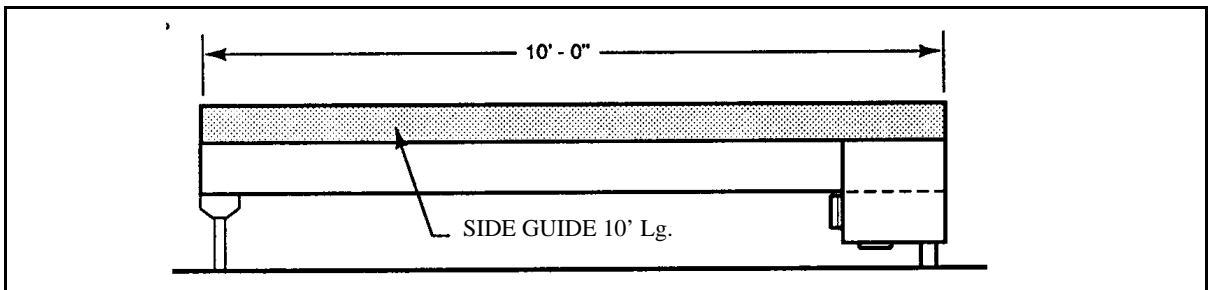
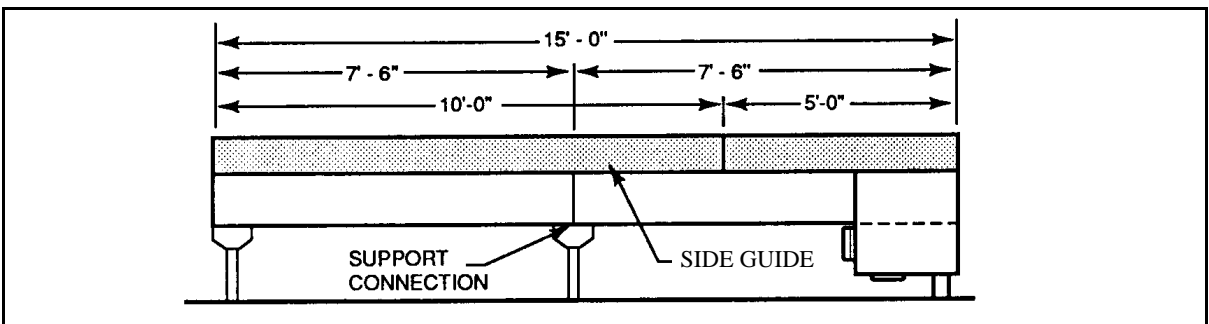
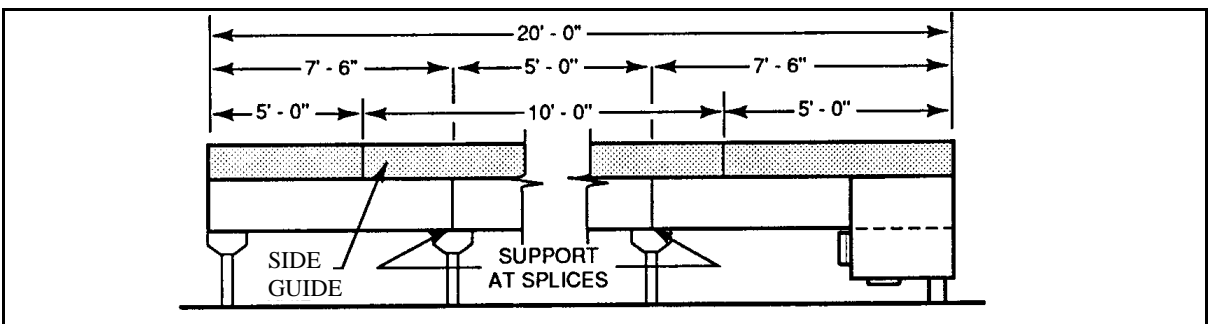

Figure G.32 – Model PRS Conveyor 10'-0" Long (shipped from the factory as complete unit)
Figure G.33 – Model PRS Conveyor 15'-0" Long (shipped from the factory as complete unit)
Figure G.34 – Model PRS Conveyor 20'-0" Long (shipped from the factory in three sections, assemble in field w/supports)
- Step 1. Mount a floor support (or ceiling hanger) to the end drive unit and junction/curve section(s) (see Figure G.28, Figure G.32, Figure G.33, and Figure G.34).
Step 1. For the 10'-0" and 15'-0" long units, mount floor supports, (or ceiling hangers) to the terminal ends (see Figure G.33 and Figure G.34).